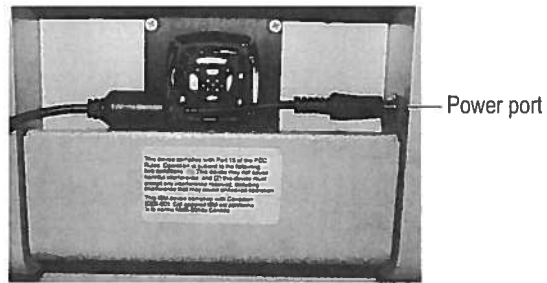

Figure 4-4 Power port for the AC power adaptor
- The power port for the AC power adaptor (back of the analyzer) [see Figure 4-4 on page 10]